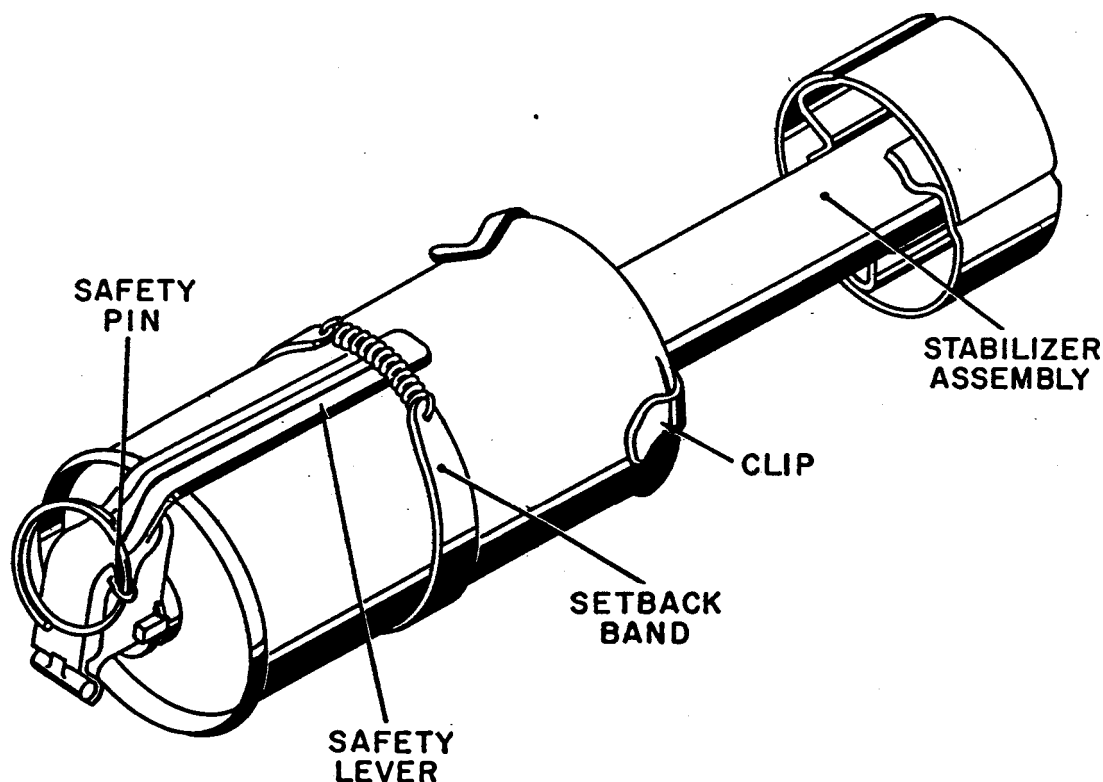

Figure 29. M2A1 chemical grenade projection adapter.
The M2A1 chemical grenade projection adapter (fig. 29) provides a means for launching chemical hand grenades from a grenade launcher installed on a rifle or a carbine. (See FM 23-30 for information on grenade launchers.) The adapter can be used with the M6 CN-DM grenade, the M7 and M7A1 CN grenades, the AN-M8 HC smoke grenade, the M18 colored smoke grenade, and the AN-M14 incendiary grenade.
a. Install the setback band on the grenade with the coil spring directly over the safety lever and slide the band to approximately 1 inch from the end of the safety lever, as shown in figure 29.